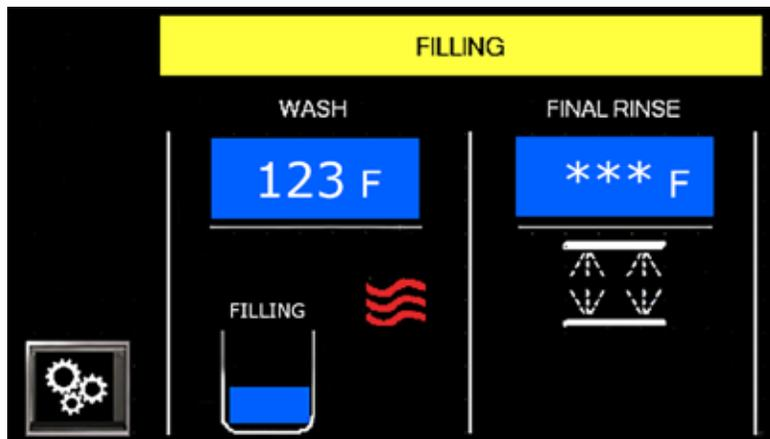

Fig. 15 - Filling
- 3** Rising water level in the wash tank is indicated by flashing blue blocks. The word, "Filling" appears above the wash tank, Fig.15.